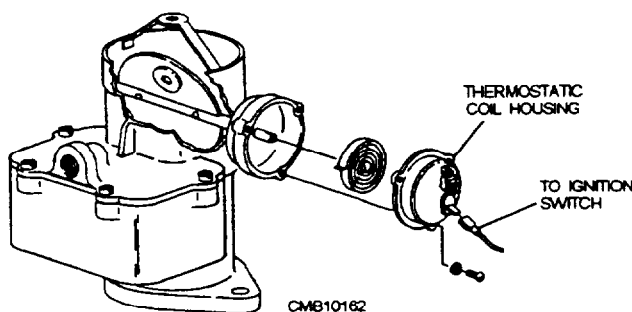

Figure 4-33.—Electric choke.
- **ELECTRICITY** (fig. 4-33) uses an electric coil to heat the thermostatic spring. The heating coil is switched on with the ignition switch. Some systems use a control unit that prevents power from reaching the